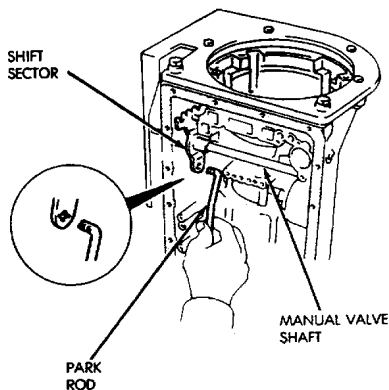

Fig. 37 Removing/Installing Park Rod
(3) Remove park rod from manual valve shaft sector (Fig. 37).
(4) Remove park rod.